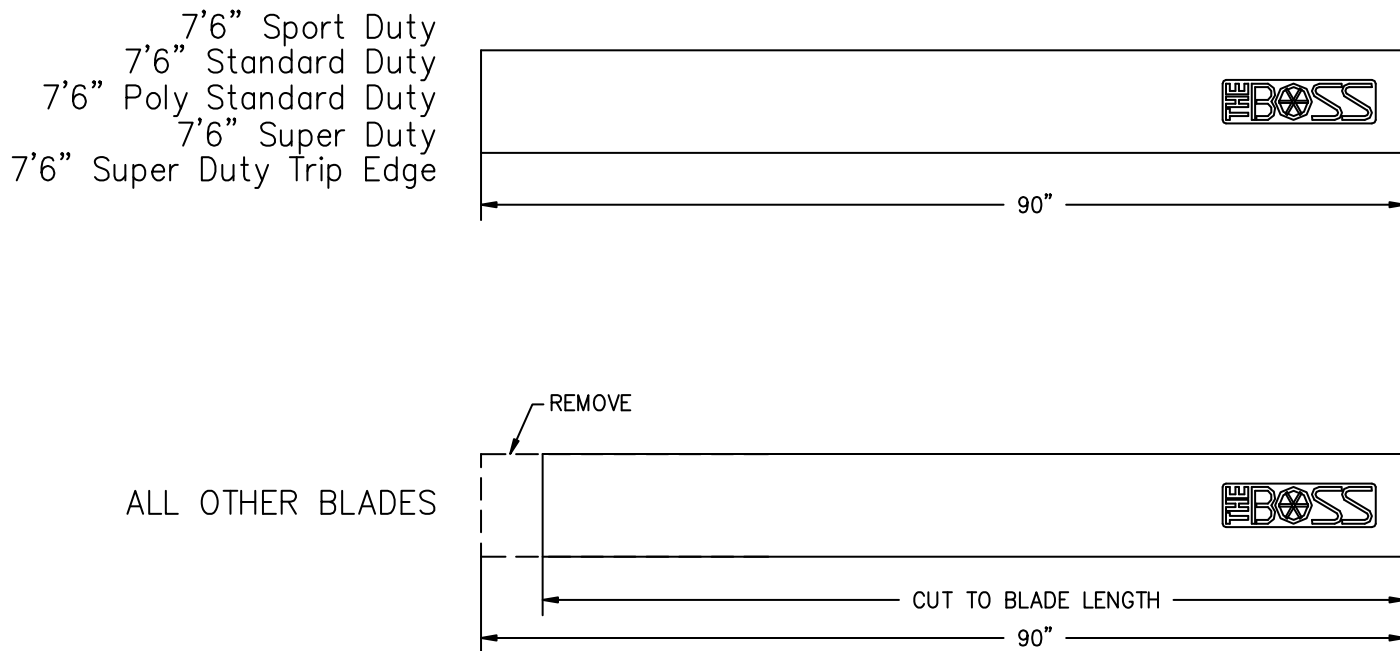

Figure 2. Belting cut for all 7'6" & Under Straight Blades.
1. Cut **MSC04058** Belting (1) to match the length of your Straight Blade. See Figure 2.